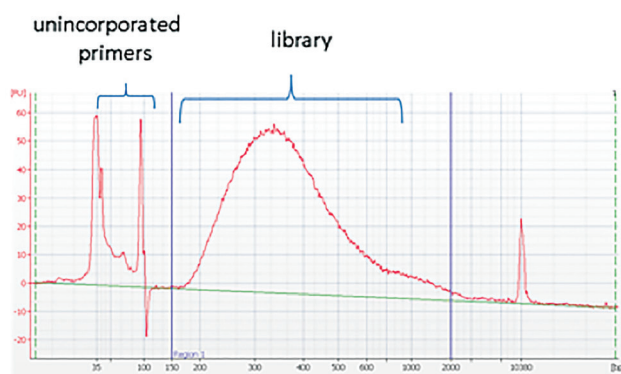

Figure 2. BioAnalyzer trace of unpurified library. A region corresponding to the amplified library is selected (blue bars) to estimate the yield.
3. Estimate the library yield using a region selection option to discriminate between unincorporated primers/adaptors and libraries themselves as it is shown in the Figure 2 below.